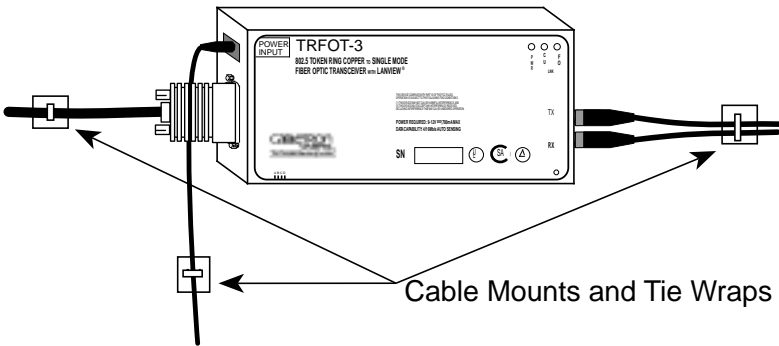

Figure 3-5. Mounting the TRFOT-3
4. Secure the TRFOT-3's cables to the wall using the adhesive backed cable mounts and tie wraps as shown in Figure 3-5.